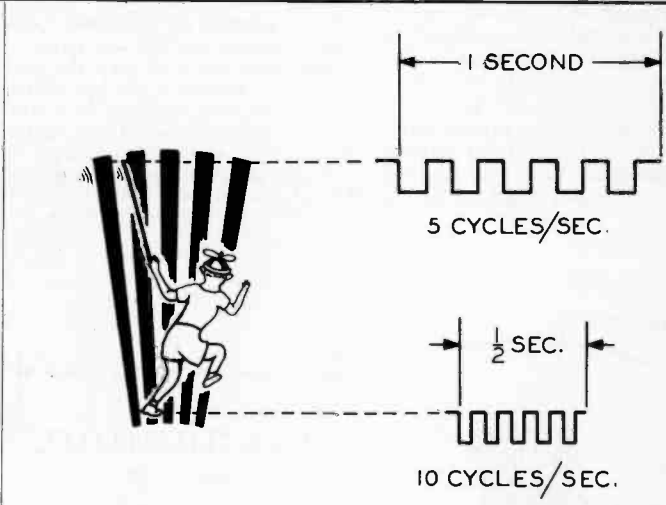
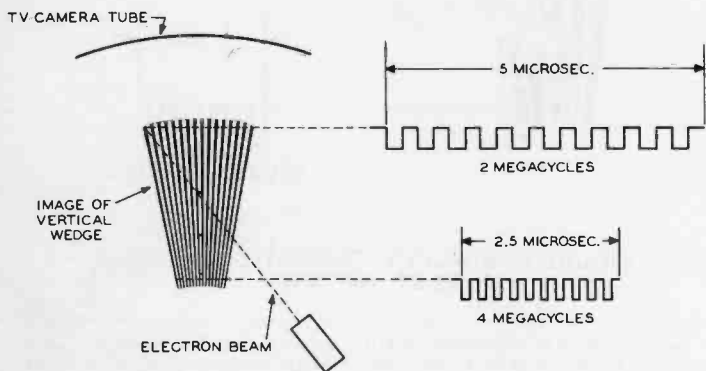

FIGURE 2—ANALOGY TO VERTICAL WEDGE IN TEST PATTERN
FIGURE 3—VERTICAL WEDGE IS USED IN PROVIDING SQUARE-WAVE VIDEO SIGNALS OF A WIDE FREQUENCY RANGE.
Two methods of connections are shown in Figs. 2 and 3, the former being that employed with receivers with a balanced input and the latter with unbalanced-input sets. It goes without saying that in order for the signal to be a maximum at the receiver input, the impedance match between the antenna, the lead, and the input should be as nearly perfect as possible. In Fig. 2 (A), a folded dipole is indicated (this has a 300-ohm impedance) and it is connected to the resistors and switches by a twin lead with the same impedance. In Fig. 3 (A) a half-wave dipole is indicated, this having an impedance of 75 ohms and a coaxial line of the same impedance being employed.
You will note that in Fig. 2 there are two double pole-double throw switches connected in parallel through series resistors to the twin-lead line from the antenna. The number of receivers connected to the antenna determine the value of these series resistors; for two receivers, the value is 150 ohms; for three receivers, 300 ohms; and for four receivers, 450 ohms. It is important to use carbon and not wire-wound resistors, as the latter may unbalance the system. Of course, the dummy load in each case remains 300 ohms, thus matching the input of the set and providing a balance in the event the set is removed from the system.
The equivalent circuits of each of these methods of connection are shown in Figs. 2 and 3 (B). In the former, the two 150-ohm resistors in series with the 300 ohms of either the set input or the dummy load, give two parallel circuits of 600 ohms each. Hence, the impedance of the combination is 300 ohms, providing the proper match for the twin-lead line. In the event that three sets are connected to the same folded dipole, the 150-ohm series resistors are changed to 300 ohms each, making each parallel branch circuit 900 ohms. The total resistance of three 900-ohm circuits in parallel is again 300 ohms, providing the required impedance match for the line.
The same reasoning can be applied to Fig. 3 (B). Here but one resistor is needed in series with the 75-ohm unbalanced input of the receiver to provide the impedance match. The total resistance of each series circuit is 225 ohms and the total resistance of the three parallel circuits is 75 ohms. If four 75-ohm receivers are to be connected to the one dipole, the series resistances are changed from 150 to 225 ohms, the total resistance of each series circuit being 300 ohms. Therefore, the total resistance of four 300-ohm parallel circuits would again be 75 ohms, giving the correct match.
Figures 2 and 3.
Suppose the boy had a V-shaped trellis with 5 pickets, as shown in Figure 2. As he draws the stick across the pickets, the motion at the
In an analogous manner, as shown in Figure 3, the camera tube at the TV transmitter produces an electrical square-wave signal as the electron beam in the camera tube is drawn across the image of the vertical wedge. But in this case the frequency is very high because the beam crosses the wedge in a few millionths of a second.